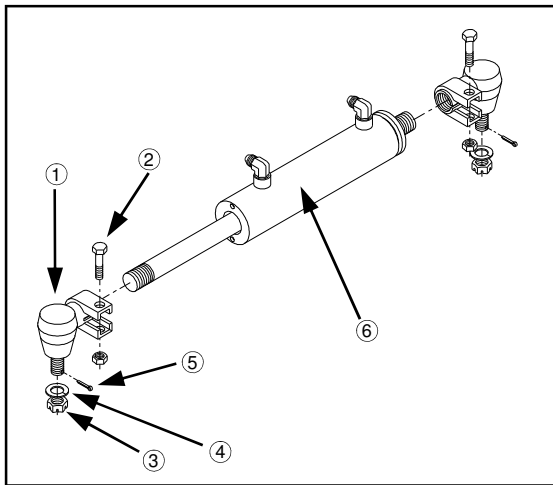

FIG 7.57
1. Remove cotter pin (fig. 7.57, item 5), castle nut (fig. 7.57, item 3), and lock washer (fig. 7.57, item 4).
2. Loosen lock collar bolt and nut (fig. 7.57, item 2).
3. Lightly tap swivel assembly (fig. 7.57, item 1) out of steering arm.
5. Screw swivel assembly in or out on steering cylinder (fig 7.57, item 6) until the treaded part lines up with steering arm.